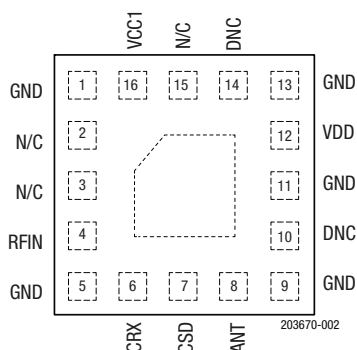
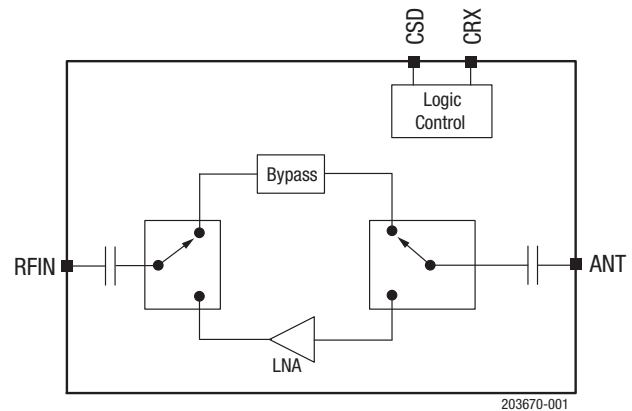

Figure 2. SKY66113-11 Pinout (Top View)
Figure 1. SKY66113-11 Block Diagram
- Low noise figure: 2 dB typical
A functional block diagram is shown in Figure 1. The SKY66113-11 is provided in a small, 16-pin, 2.4 × 2.4 mm Multi-Chip Module (MCM) package. The pin configuration and package are shown in Figure 2. Signal pin assignments and functional pin descriptions are provided in Table 1.